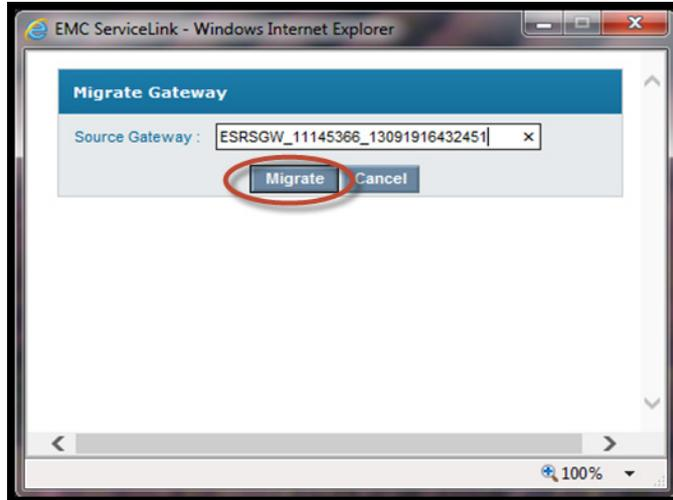

Figure 138 Migrate Gateway dialog box
6. In the Migrate Gateway dialog box, type your existing Gateway serial number, and then click **Migrate**, as shown in Figure 138 on page 116. The output that you receive will be based on the number of managed devices. This process will also pick up and migrate any existing errors.